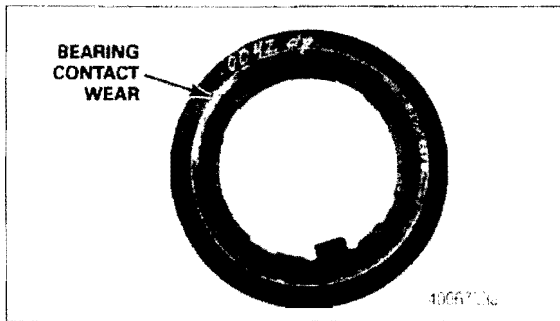

Figure 9
3. Inspect the inboard face of the stake washer for wear or an indent from the bearing contact face. Figure 9